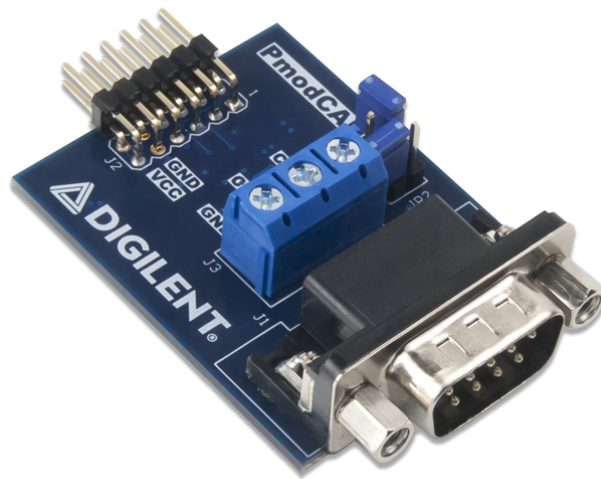

Figure 1: A CAN PMOD
- **PMODs** are a type of plug in which are developed to fit onto Digilent dev boards such as the CAN Transceiver shown in fig. 1. These are really easy ways to add functionality to your dev board without spending loads of money.